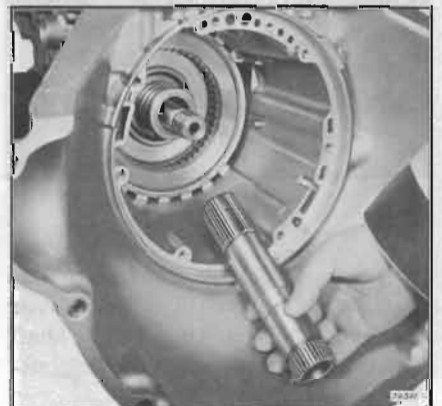

Figure 74-547
9. Remove sun gear shaft. See Figure 74-547.